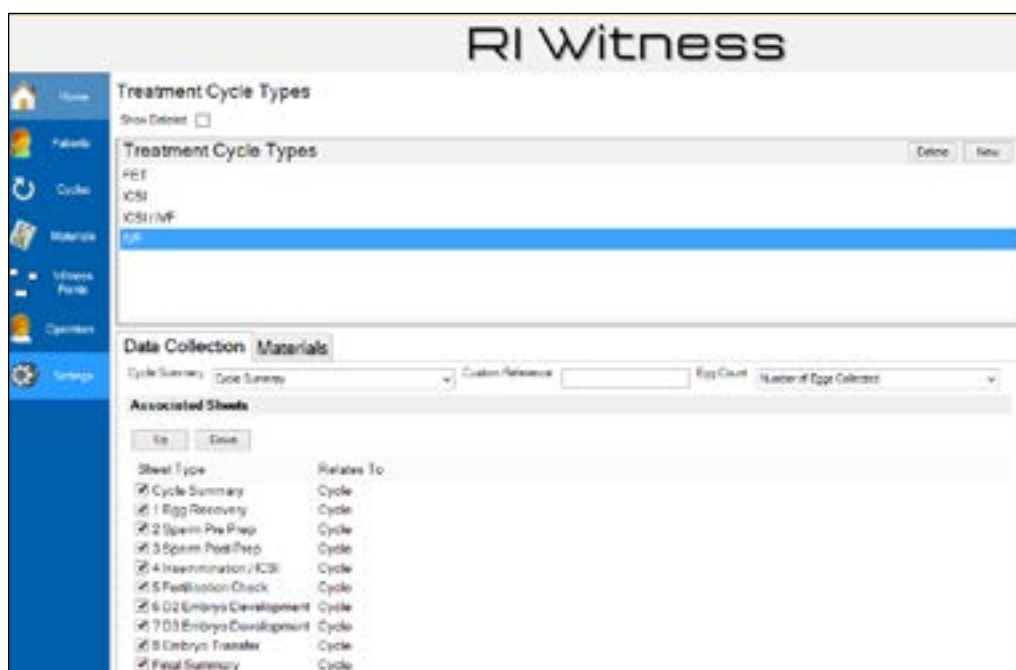

Figure 6-17 The Treatment Cycle Types Window
1. Click the **Settings** main menu button and then click **Cycle Types** to view all treatment cycle types. See Figure 6-17.